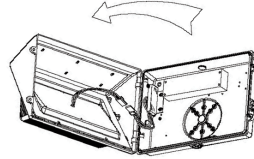

Fig. 2
3. Open the fixture and disconnect the connection terminals, then remove the front cover of the fixtures. (Fig. 2)